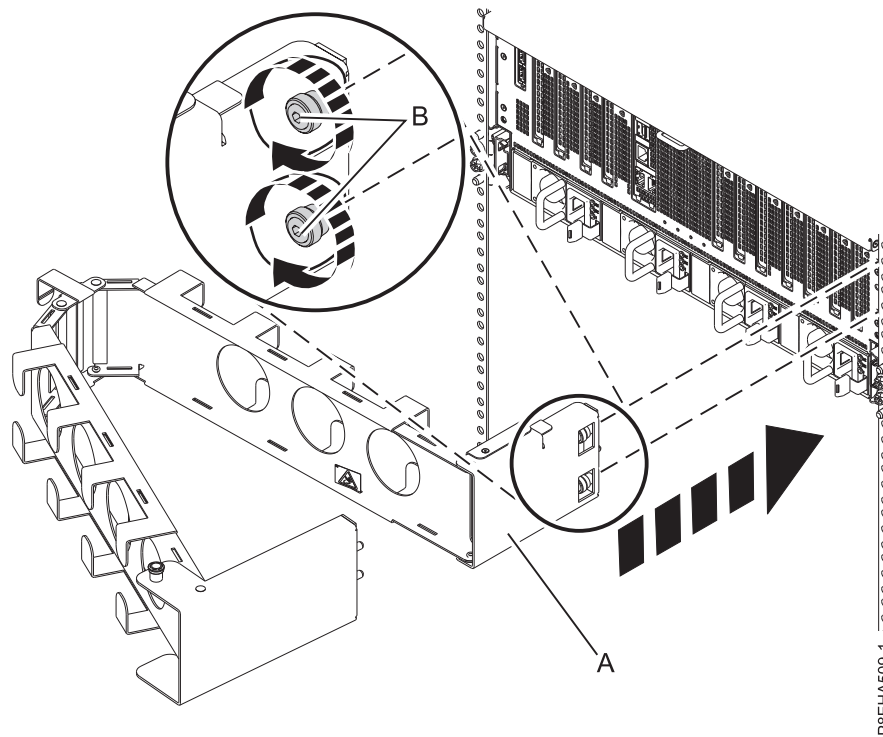

Figure 17. Attaching the inner plate to the system chassis
1. Attach the inner plate (A) to the system chassis by hand-tightening the two captive screws (B) through the threaded holes on the chassis, as shown in Figure 17 on page 17. Then use the T25 hex tool that was included with your system to tighten the bolts further.